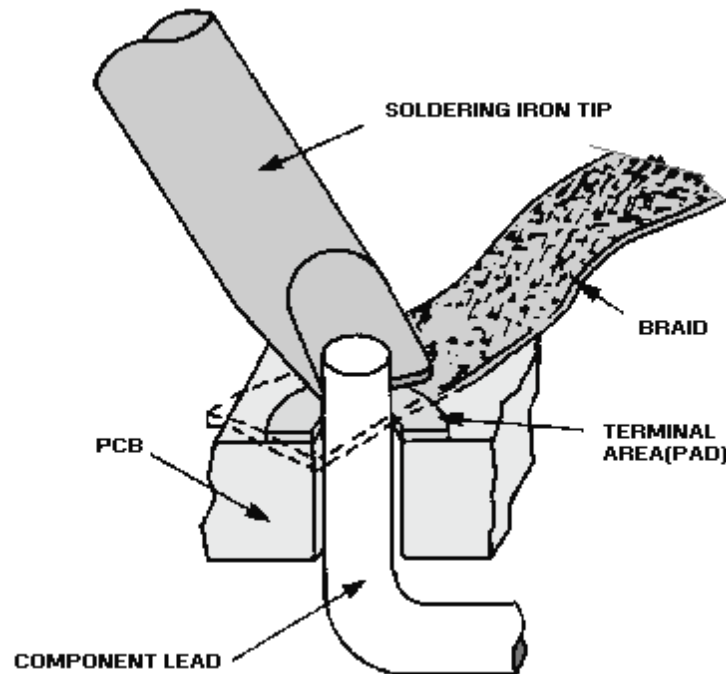

Figure 3-10.—Solder wicking.
**SOLDER WICKING.**—IN this technique, finely stranded copper wire or braiding (wick) is saturated with liquid flux. Most commercial wick is impregnated with flux; the liquid flux adds to the effectiveness of the heat transfer and should be used whenever possible. The wick is then applied to a solder joint between the solder and a heated soldering iron tip, as shown in figure 3-10. The combination of heat, molten solder, and air spaced in the wick creates a capillary action and causes the solder to be drawn into the wick.